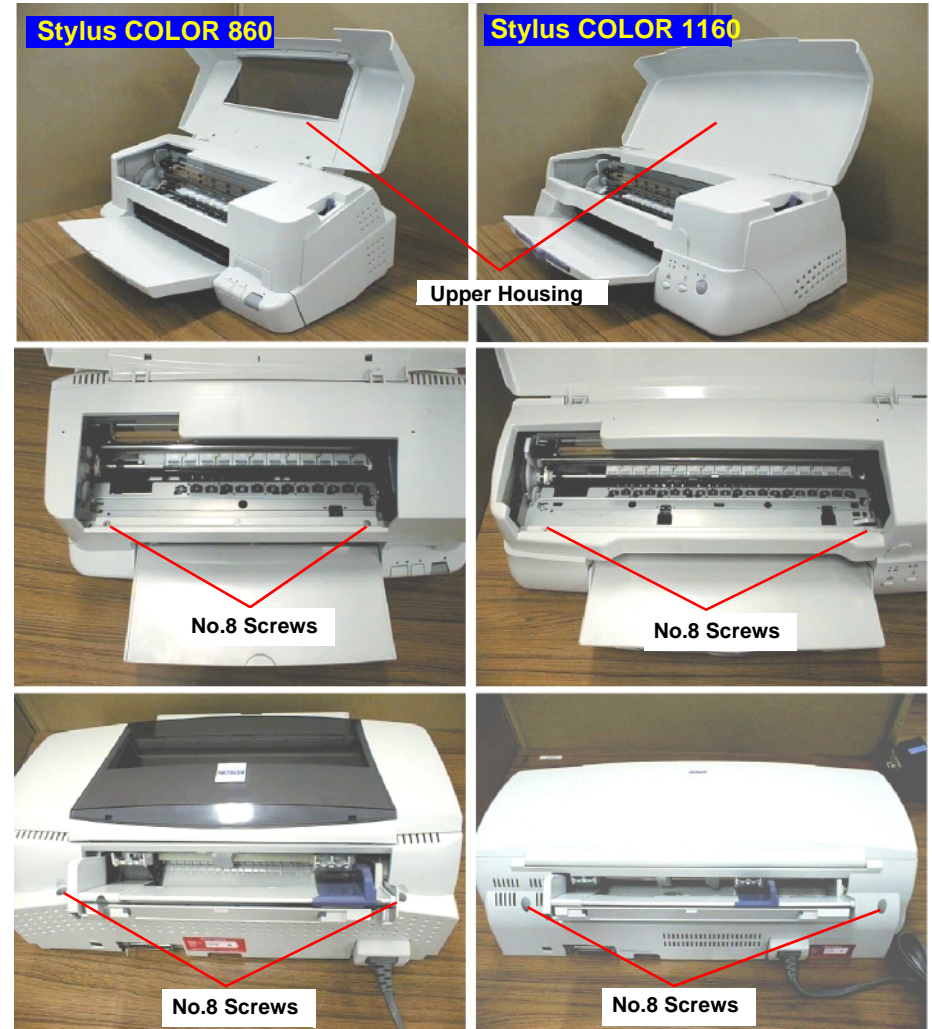

Figure 4-2. Removing the Upper Housing
2. Remove 4 screws (No.8) securing the Upper Housing, and remove it upward. Refer to Figure 4-2. The left column's photos show you the Stylus Color 860 and right column's photos show you the Stylus Color 1160.